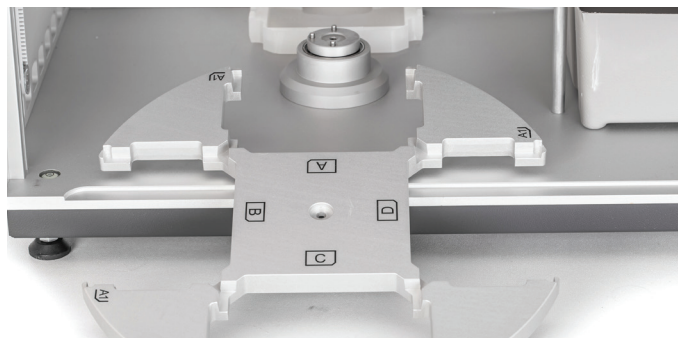

Figure 57. The carousel can be removed for better access when cleaning the interior of the system.
5. Clean the interior of the system, using a soft and clean cloth. The cloth can be dry or lightly dampened with a cleaning solution that is suitable for the residues. If desired, the carousel can be removed for better access by unscrewing the center knob (see Figure 57).